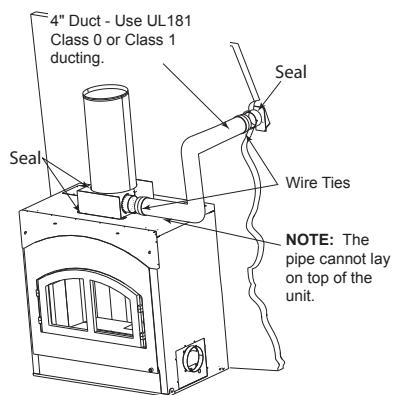

Figure 6.4 Installing Flex Pipe
- Seal around the cap and flex with caulk to stop air from getting into the chase (see Figures 6.4).